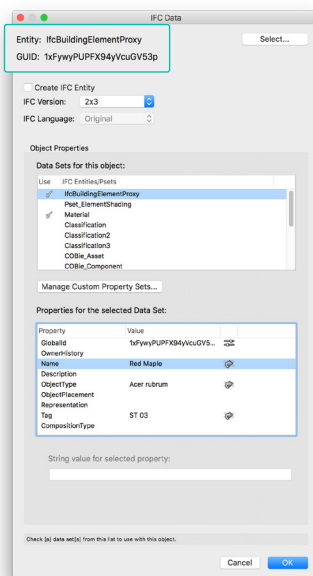

FIGURE 18A
1. An object's IFC tag, or designation, and GUID (Global Unique Identifier) (Fig. 18A).